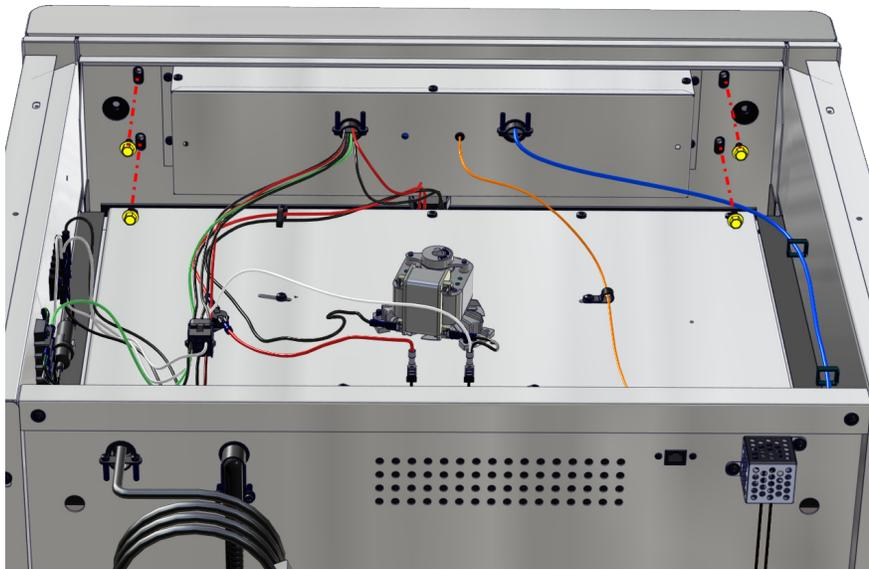

Fig. 2: Remove 4 bolts from header
3. After the top panels is removed and the electronics drawer exposed, remove the 4 bolts that secure the header to the cabinet (Fig. 2 - shown in yellow). Pull the header out - it will have some connecting wires to the cabinet - lay the header on a support.
4. Place the new header back on the cabinet, re-insert the 4 bolts and partially tighten. (Fig. 2). Make sure the bottom of the header is straight and parallel with the top of the chamber door. Then fully tighten the 4 bolts to secure the header to the cabinet.
3. Remove the 4 bolts from the back of the header (Fig. 2). Pull the header partially away from the drawer assembly (it is still connected by wiring) and lay it flat on its face on a support.
2. Place the new header back on the cabinet, re-insert the 4 bolts and partially tighten. (Fig. 2).